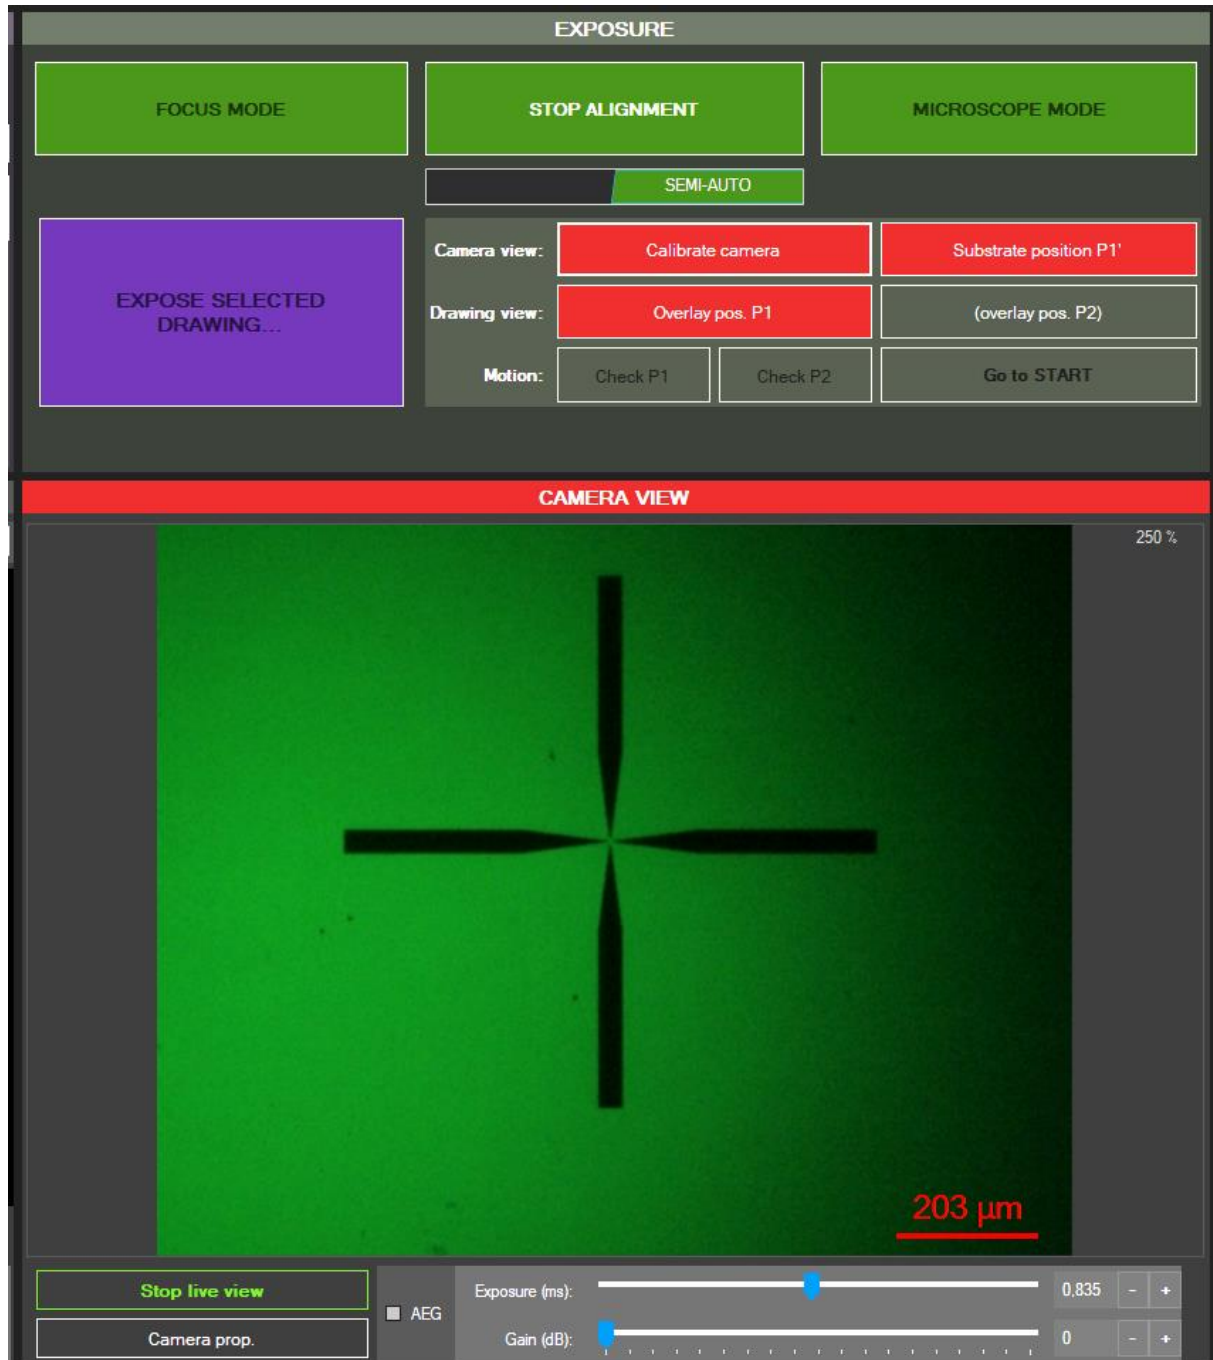

Figure 53 - Semi-auto alignment: camera calibration
- Camera calibration (Figure 52a): click on **Calibrate camera**. The camera live view may start and the mouse cursor shape may change. In the camera view, click on the central part of the displayed cross (Calibration point) as shown in Figure 53.